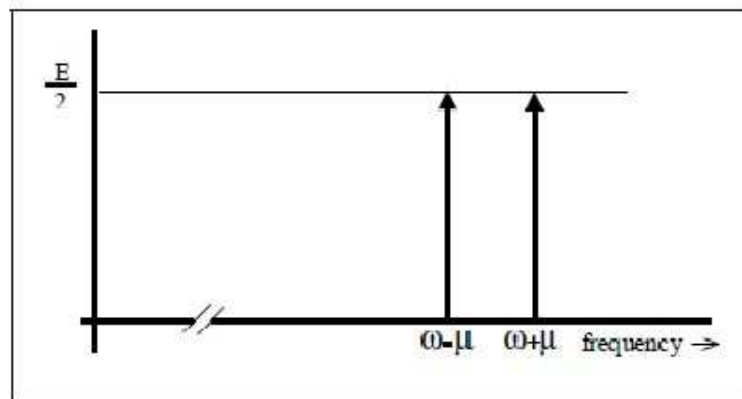

Figure 1: Spectral components
Equation (3) shows that the product is represented by two new signals, one on the sum frequency $(\omega + \mu)$, and one on the difference frequency $(\omega - \mu)$ - see Figure 1.